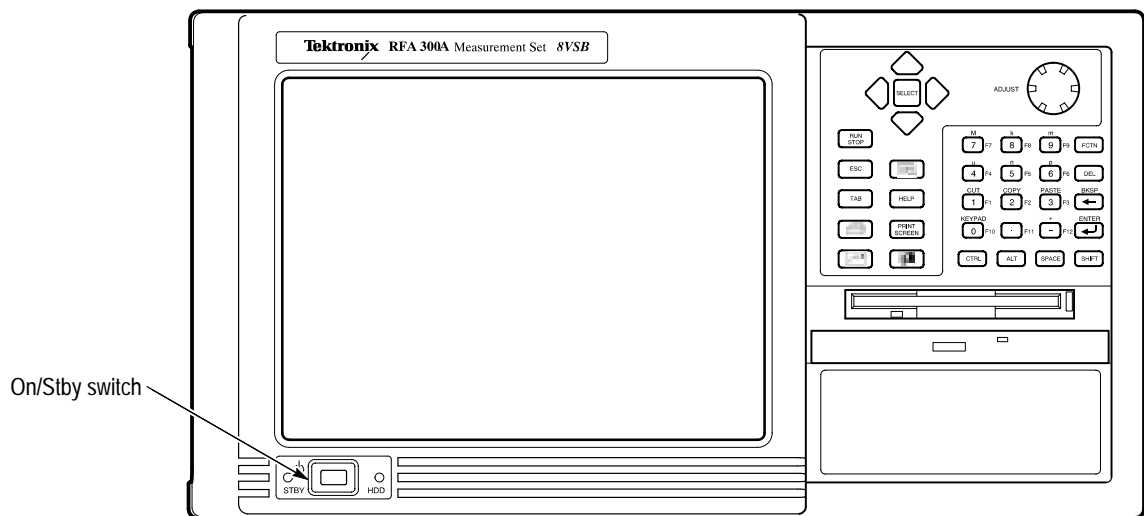

Figure 2–4: On/Standby switch
1. Press the On/Standby switch to power on the instrument (see Figure 2–4 for the switch location).